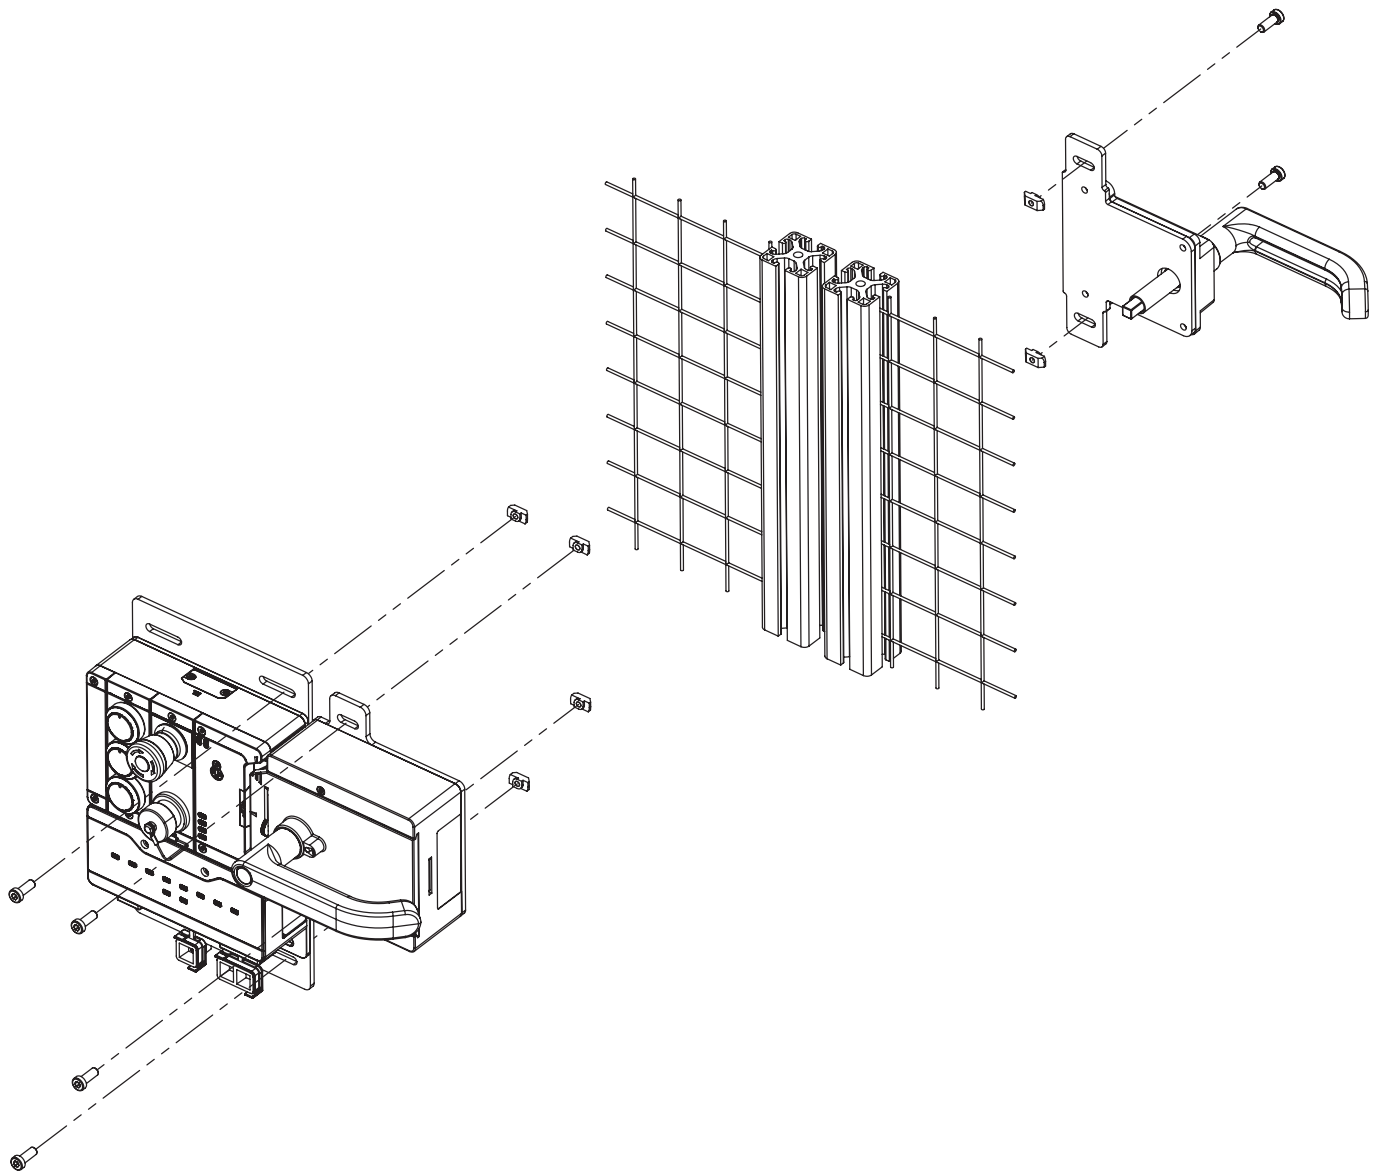
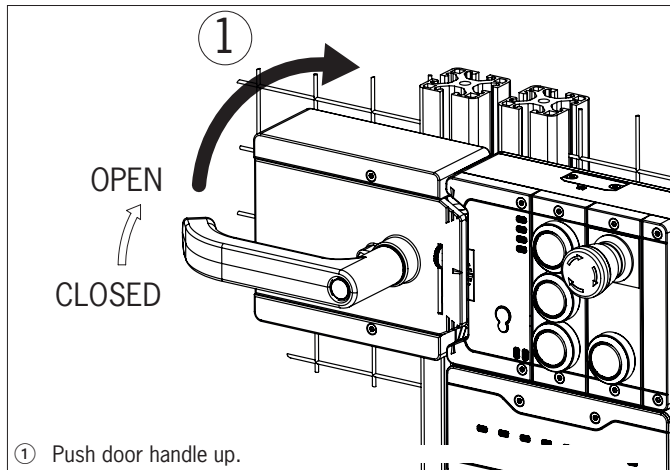
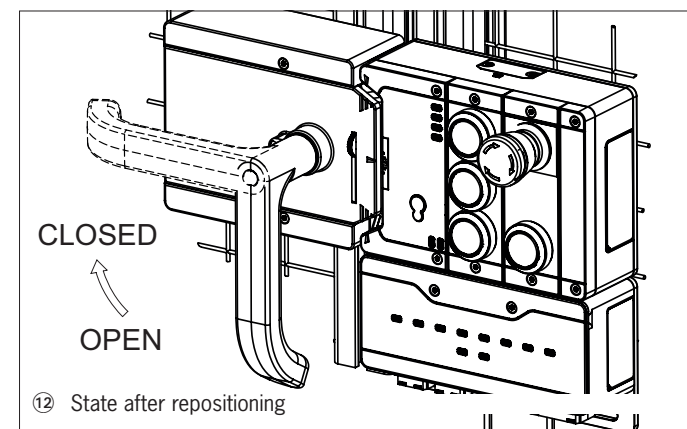

Fig. 8: Installation example for door hinged on the right (general view)
Fig. 10: Changing actuating direction, step ①
Fig. 15: Changing actuating direction, final state
- › During mounting, pay attention to correct alignment. Use the alignment aids on the housing for the locking module and on the housing for the handle module (see Fig. 8).
For mounting steps, see Fig. 8 and Fig. 10 to Fig. 15.
- › The system is mounted the other way up for doors hinged on the left. In other words, the guard opens by pressing up the door handle (see Fig. 10). For this reason the actuating direction of the door handle must be changed (see Fig. 10 to Fig. 15).